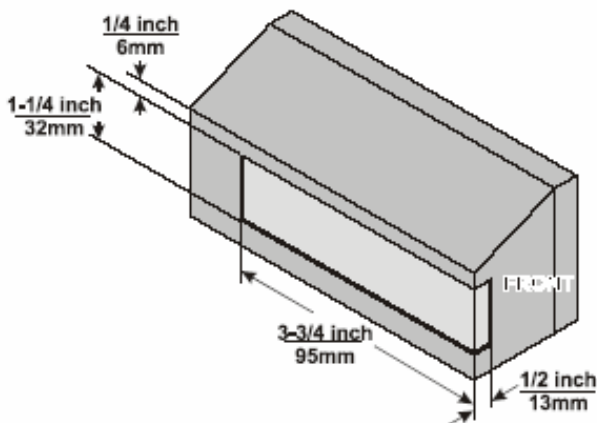

Figure 4.9
- ☐ Mark the lid of the throttle actuator (Figure 4.9) and cut out the marked section with a small zip wheel or similar tool.